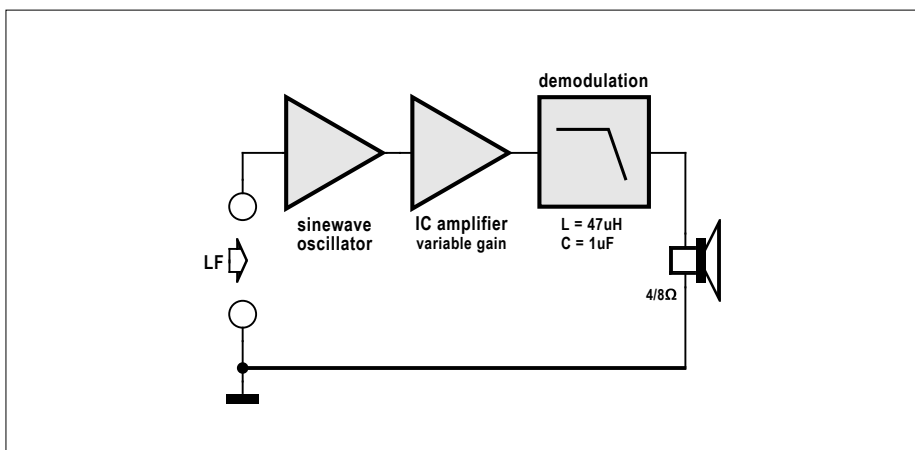

Figure 1. The block diagram outlines the flawed circuit concept.
The 'sinusoidal FM-LF amplifier' was intended to offer an analogue alternative to the digital PWM audio amplifier principle. The circuit, as originally described consists of a frequency modulated RF sine wave generator, a standard opamp IC followed by a low-pass filter for demodulation purposes. A block diagram [1] of the concept was given and is shown again here as **Figure 1**. Any reader with a background in analogue electronics may already begin to suspect that the basic concept is a little flawed. How come? Well it's not just one simple error.
- Any audio amplifier has a limited bandwidth. According to the LM386 datasheet operating with a fixed voltage gain of 20 (26 dB) the output 3-dB roll off point occurs at 300 kHz and for 1 MHz signals the gain falls to 10 dB. The opamp in this circuit therefore acts as a low-pass filter to RF signals. The gain falls by around 30 dB / decade for frequencies above 1 MHz so that at 10 MHz, it is about 0.3. The opamp cannot amplify the RF signal, but acts as an RF attenuator in the circuit. The amplifier gain/bandwidth product applies also to the TBA820 and all amplifiers in general. **Figure 1** could not work even if it were possible to demodulate a frequency-modulated RF signal with a low-pass filter.